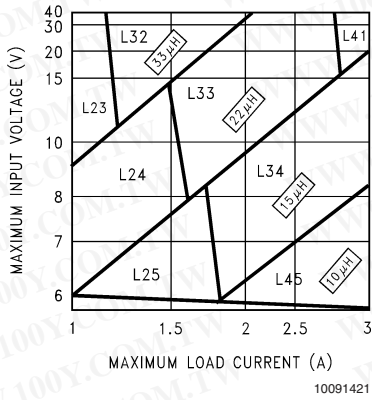
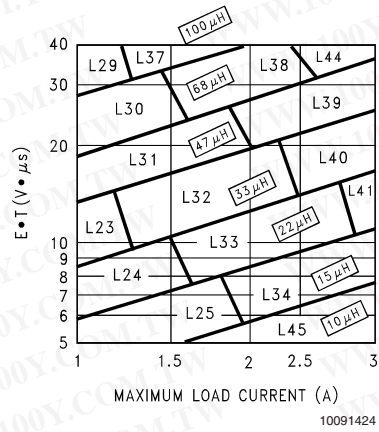

FIGURE 3. LM2676-3.3
FIGURE 6. LM2676-ADJ
Step 3: Determine the inductor required by using one of the four nomographs, *Figure 3* through *Figure 6*. Table 1 provides a specific manufacturer and part number for the inductor.
Step 5: Determine an input capacitor from Table 4 for fixed output voltage applications. Use Table 2 to find the specific capacitor type. For adjustable output circuits select a capacitor from Table 2 with a sufficient working voltage (WV) rating greater than $V_{in\ max}$, and an rms current rating greater than one-half the maximum load current (2 or more capacitors in parallel may be required).
Step 3: Use the nomograph for the 3.3V device, *Figure 3*. The intersection of the 16V horizontal line ($V_{in\ max}$) and the 2.5A vertical line ($I_{load\ max}$) indicates that L33, a $22\mu\text{H}$ inductor, is required.
Step 3: To use the nomograph for the adjustable device, Figure 6, requires a calculation of the inductor Volt \cdot microsecond constant ($E\cdot T$ expressed in $V\cdot\mu s$) from the following formula:
Using Figure 6, the intersection of 27V $\cdot\mu s$ horizontally and the 2A vertical line ($I_{load\ max}$) indicates that L38, a 68 μ H inductor, should be used.
Important Note: When using the adjustable device in low voltage applications (less than 3V output), if the nomograph, Figure 6, selects an inductance of 22 μ H or less, Table 6 does not provide an output capacitor solution. With these conditions the number of output capacitors required for stable operation becomes impractical. It is recommended to use either a 33 μ H or 47 μ H inductor and the output capacitors from Table 6.